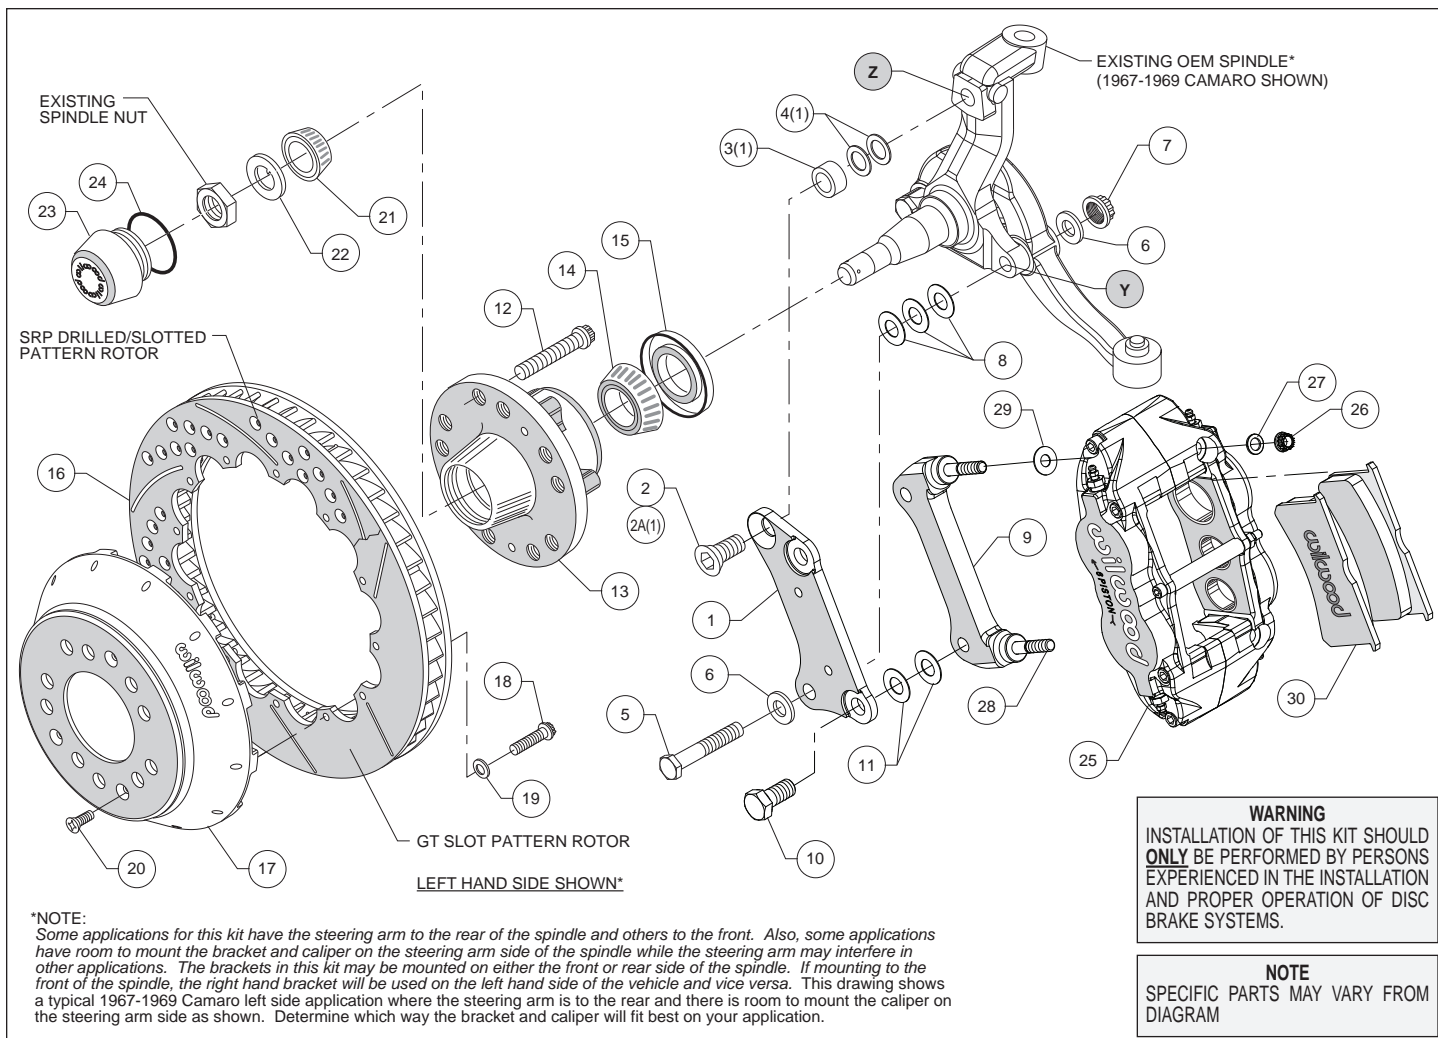
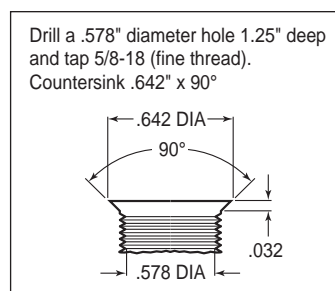
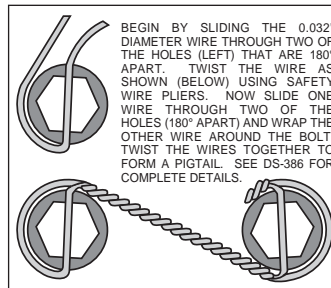

Figure 1. Typical Installation Configuration
Figure 3. Drill and Tap Detail
Figure 4. Safety Wire Diagram
**Assembly Instructions** (numbers in parenthesis refer to the parts list on the preceding page, and Figure 1):
•**NOTE:** Some applications for this kit have the steering arm to the rear of the spindle and others to the front. Also, some applications have room to mount the bracket and caliper on the steering arm side of the spindle while the steering arm may interfere in other applications. The brackets in this kit may be mounted on either the front or rear side of the spindle. If mounting to the front of the spindle, the right hand bracket will be used on the left hand side of the vehicle and vice versa. Figure 1 shows a typical 1967-1969 Camaro left side application where the steering arm is to the rear and there is room to mount the caliper on the steering arm side as shown. Determine which way the bracket and caliper will fit best on your application.
•**NOTE:** Some spindles in this year range may require the following modifications (reference Figure 1 and Figure 3): Top anchor pin hole (Z) must be drilled and tapped to the dimensions as outlined in Figure 3. The lower bolt hole (Y) in the spindle used to mount the new caliper bracket, and the mating steering arm hole, must be enlarged to .50" by drilling. It is recommended these modifications be performed by a qualified machinist.
•Install wheel studs (12) into the hub (13), Photo 1. Torque to 77 ft-lb. **NOTE:** There are two five lug patterns in the hub (5 x 4.50 and 5 x 4.75). Make sure of the correct hole pattern for the correct wheel application before installing studs into hub.
•Pack the large inner bearing cone (14) with high temperature disc brake bearing grease (available from your local auto parts store) and install into the backside of the hub (13).
•Install the grease seal (15) by pressing into the backside of the hub (13), Photo 2.
•Orient the rotor (16) and the hat (17) as shown in Figure 1 and Photo 3. Attach rotor to hat using bolts (18) and washers (19). Using an alternating sequence, apply red *Loctite*® 271 to the threads, and torque to 155 **in-lbs**. For an added measure of security, the bolts may be safety wired using standard 0.032 inch diameter stainless steel safety wire as shown in Figure 4. Please refer to Wilwood's data sheet DS-386 (available at [www.wilwood.com/Pdf/DataSheets/ds386.pdf](http://www.wilwood.com/Pdf/DataSheets/ds386.pdf)) for complete safety wire installation instructions.
•**Disc Brake Spindle Application Only:** Follow the instructions below, but instead use bolt (2A), spacer (3), and two .050" thick shims (4) in the upper bolt hole location, Figure 1.
•Orient the flat bracket (1) as shown in Figure 1 and Photo 4, and install using bottom bolt (5), washers (6), and nut (7), Figure 1. Initially place three .032" thick shims (8) between the bracket and spindle. Install the upper bolt (2 or 2A). Temporarily tighten bolts. **NOTE:** *The bracket must fit squarely against the mounting surfaces on the spindle.* Inspect for interference from casting irregularities, machining ridges, burrs, etc. Temporarily install the new hub, hat and rotor assembly. Check that the bracket is aligned parallel to the rotor, Photo 5. If not, adjust by adding or subtracting shims (8) on the lower bolt between the bracket and spindle, Figure 1. Once the bracket alignment is correct, remove the upper bolt (2 or 2A), apply red *Loctite*® 271 to the bolt threads, and torque to 120 ft-lb. Torque the lower lock nut to 65 ft-lb.
•The radial mount caliper bracket (9) should initially be installed with clean, dry threads on the mounting bolts. Orient the bracket as shown in Figure 1 and Photo 6, and install using bolts (10). Initially place two .029" thick shims (11) on each bolt between the two brackets, Figure 1. Temporarily tighten the mounting bolts. Later, after the caliper alignment has been checked, the mount bolts will be secured using red *Loctite*® 271.
•Pack the small outer bearing cone (21) with high temperature disc brake bearing grease and install into hub (13). Final install the hub assembly onto the spindle. Secure using spindle washer (22) and OEM spindle nut, Photo 7. Adjust bearings per OEM specifications. Install saved OEM nut lock (if any) and a new cotter pin (not included).
•Screw dust cap (23) into hub (13). Friction created by the o-ring (24) on the dust cap keeps it from unscrewing. **NOTE:** *The O.D. of the existing OEM spindle washer may be larger than the I.D. of the dust cap not allowing it to seat against the hub face. Therefore, use the spindle washer (22) supplied with the kit instead of the OEM washer.*
•Final install the rotor (16 and 17) assembly onto the hub (13), taking care to align the small countersunk holes in the hat with the small threaded holes in the hub. **NOTE:** *The hat must fit flush against the hub face or excessive rotor run out may result.* Install three flat head screws (20) through the small holes in the hat (17), Photo 8, and torque to 85 in-lb.
•**NOTE:** *This kit contains distinct right and left hand calipers that must be mounted in a specific direction, as described below.* Lubricate the caliper mounting studs (28) with lightweight oil. Initially place one .035" thick shim (29) on each stud between the caliper and the bracket, as shown in Figure 1 and Photo 9. Mount the caliper (25) onto the bracket (9) using lock nuts (26) and washers (27), Figure 1. Ensure that the caliper is mounted so the largest pistons are at the rotor exit end of the caliper, in relation to the direction of rotor rotation. Temporarily tighten the lock nuts. The rotor should be centered in the caliper, Photo 10. If not, adjust by adding or subtracting shims (11) between the flat bracket (1) and the caliper bracket (9). Always use the same amount of shims on